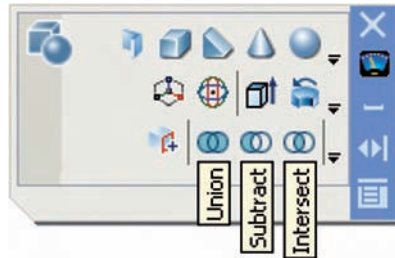

Fig. 13.10 The **Union**, **Subtract** and **Intersect** tool icons in the **3D Modeling control panel**
3. Drawing **2** – call the **Union** tool from the **3D Make control panel** (Fig. 13.10). The command line shows:
5. Drawing 4 – call the **Subtract** tool (Fig. 13.10). The command line shows:
4. Drawing 2 – call the **Intersect** tool from the **3D Modeling control panel** (Fig. 13.10). The command line shows: